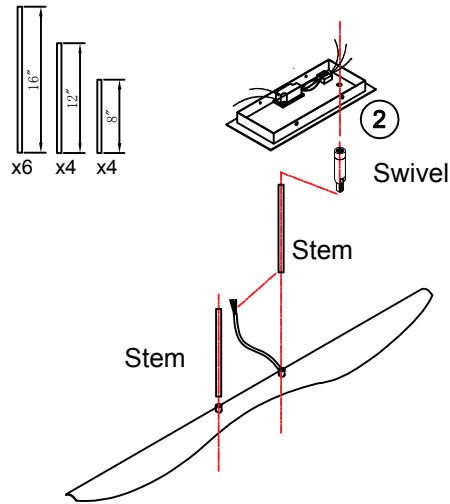
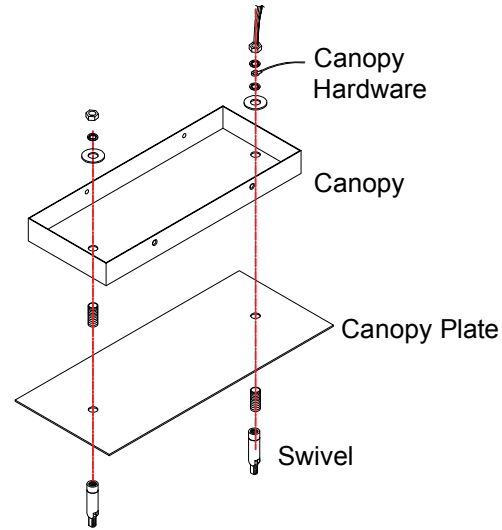

Fig.1
Fig.2
2. Determine the stem length required for installation, connect stems and thread wire through (Fig. 1).
3. Attach swivels to stems (Fig.1) then attach to canopy plate and canopy using canopy hardware provided (Fig.2)